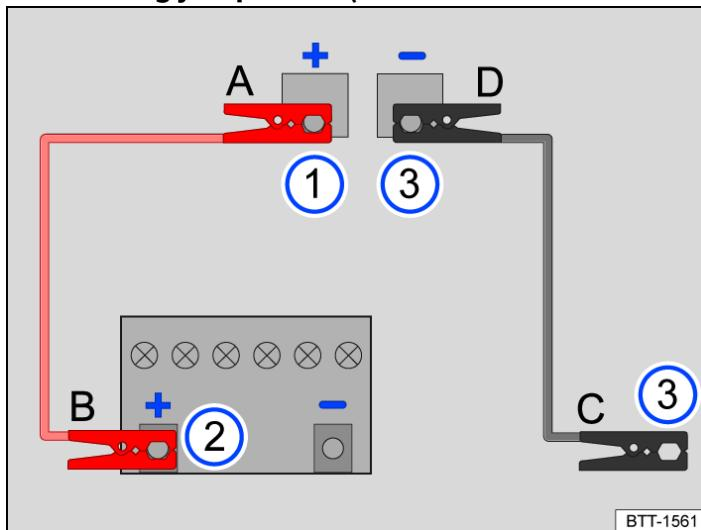

Fig. 2 Diagram for connecting the jump leads (12-volt vehicle battery in the luggage compartment).
The jump leads should be connected only in the order A – B – C – D → *Fig. 2*.
3. Connect one end of the *red* jump cable A to the jump lead positive (+) of the vehicle with the discharged 12-volt vehicle battery → *Fig. 2* ① → .
4. Connect the other end of the *red* jump lead B to the positive battery terminal (+) of the vehicle providing assistance → *Fig. 2* ②.
5. On the vehicle with the 12-volt vehicle battery providing assistance, connect one end of the *black* jump lead C preferably to an earth connection jump-start connection point (-), or otherwise to a solid metal part that is securely bolted onto the cylinder block, or to the cylinder block itself → *Fig. 2* ③.
6. Connect the other end of the *black* jump lead D on the vehicle with the 12-volt discharged vehicle battery preferably to the earth connection jump-start connection point (-), or otherwise to a solid metal part that is securely bolted onto the engine block or to the engine block itself → *Fig. 2* ③ → .
3. When the engine is running, the jump leads should be removed only in the order D – C – B – A → Fig. 1 or → Fig. 2.